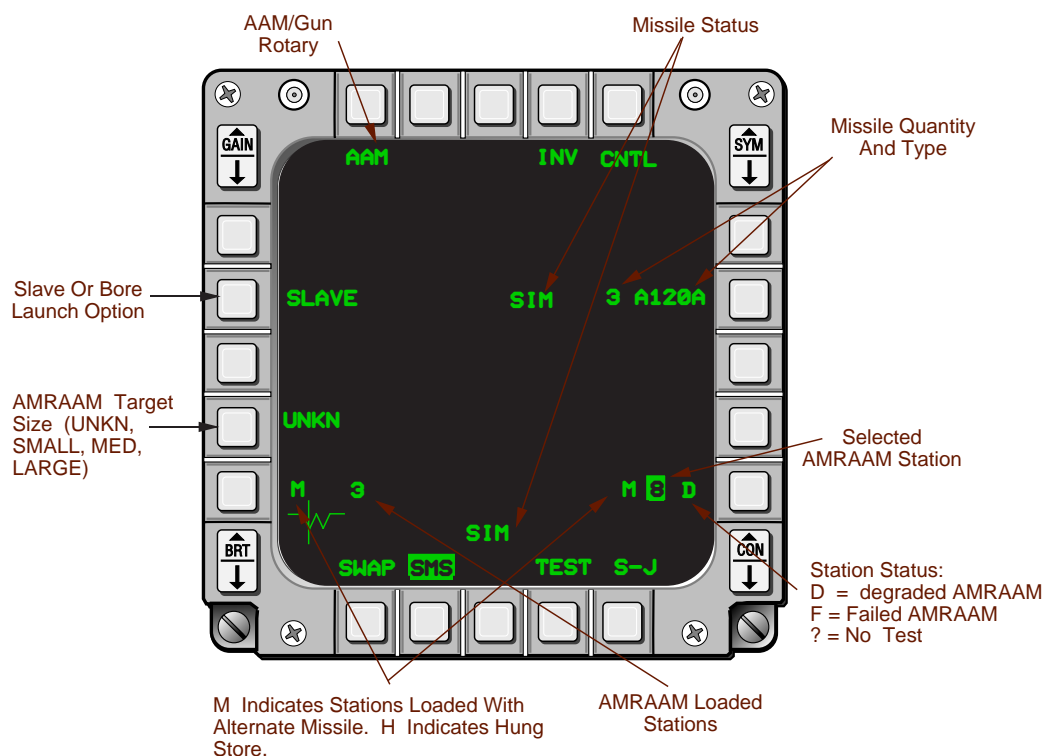

Figure 4-4 AIM-120 SMS Base Page
**AIM-120 Stores Management.** AMRAAM options are selected through the Stores Management Set (SMS) Base page and Control page (Figure 4-4 and 4-5).